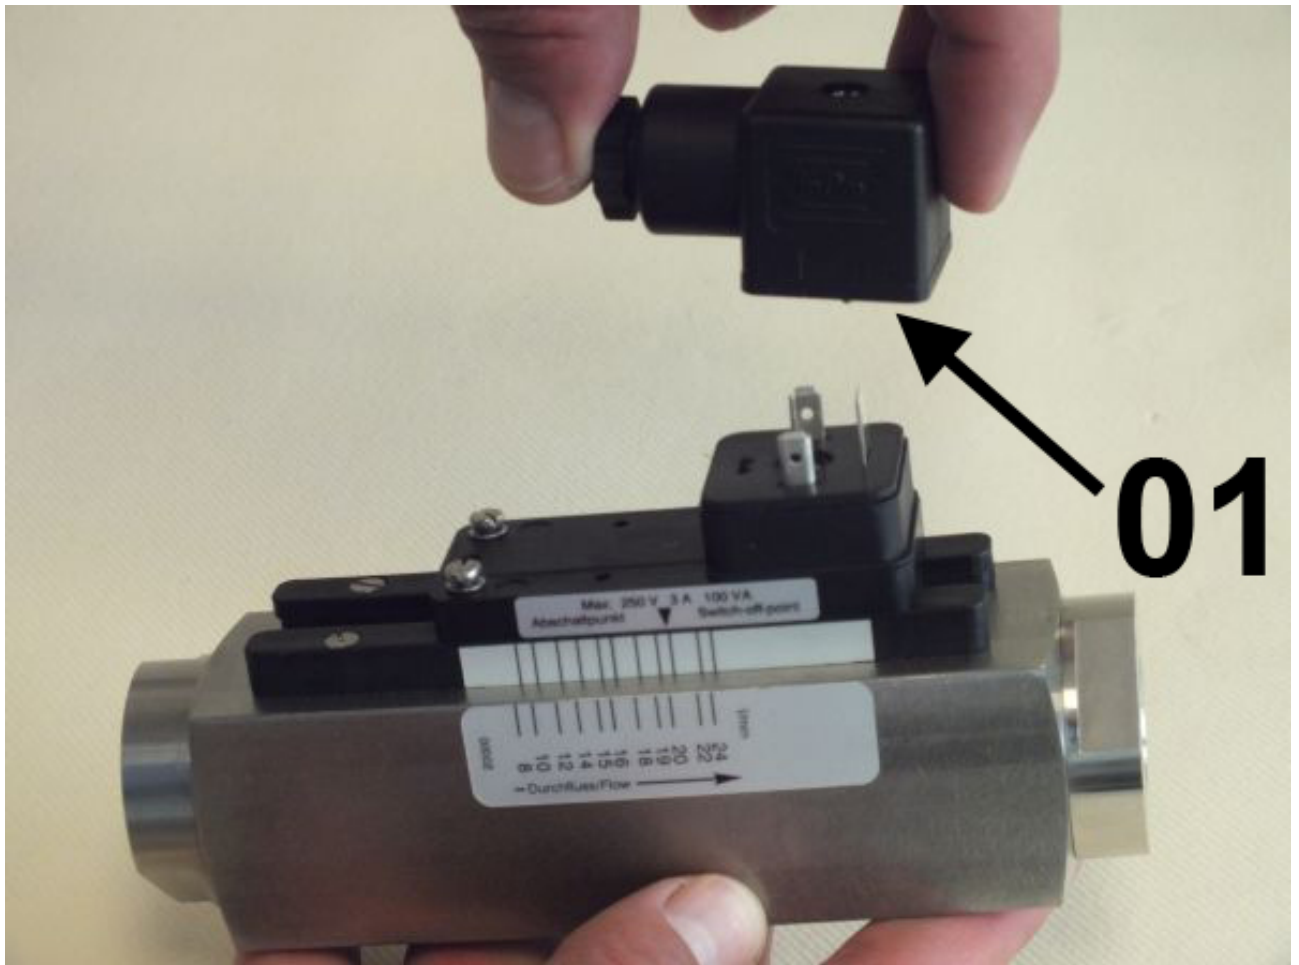

Fig. 28: Remove socket
2. ➤ Remove socket (Fig. 28/01)
- 9.** ➤ Plug the socket onto the connection plug and tighten the fixing screw (*Fig. 28/01*).